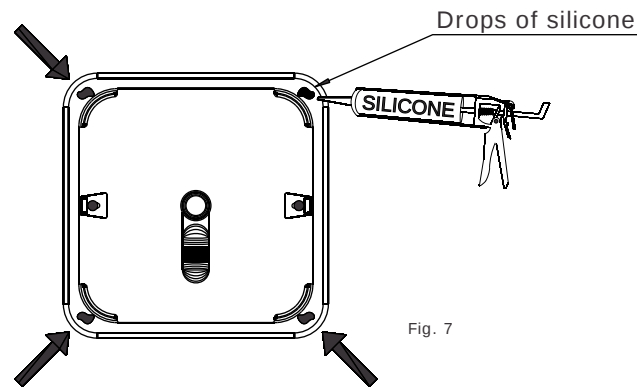

Fig. 7
- Apply drops of silicone to the four points indicated per Fig. 7 (silicone not included with product).